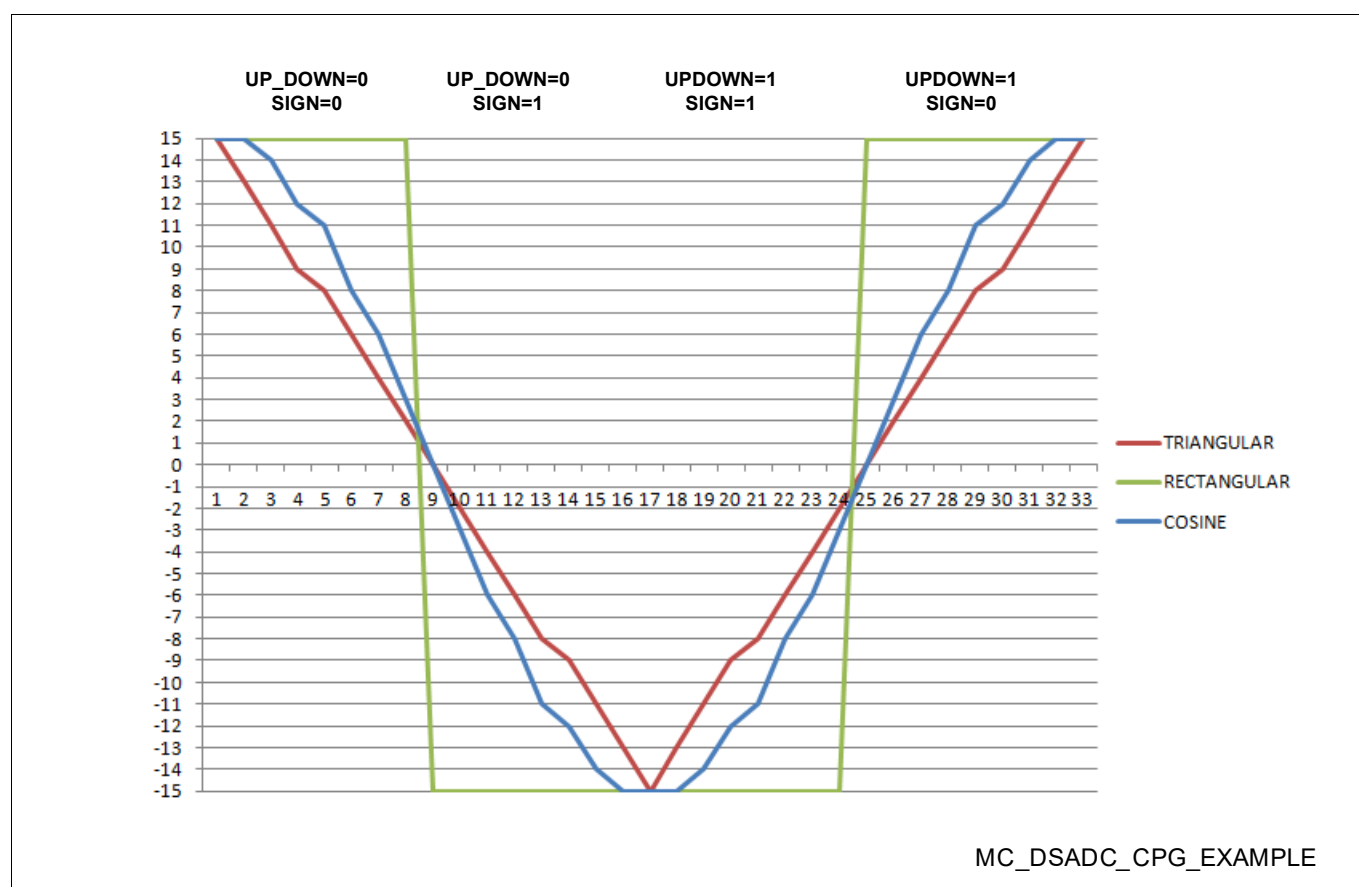

Figure 322 Example Pattern/Waveform Outputs
The carrier signal generator (CG) is supplied with the module clock signal and outputs a PWM signal that induces a sine signal in the excitation coil of the resolver. Alternatively, it can generate PWM patterns that resemble triangle or square signals (see Figure 322). The polarity of the carrier signal can be selected.